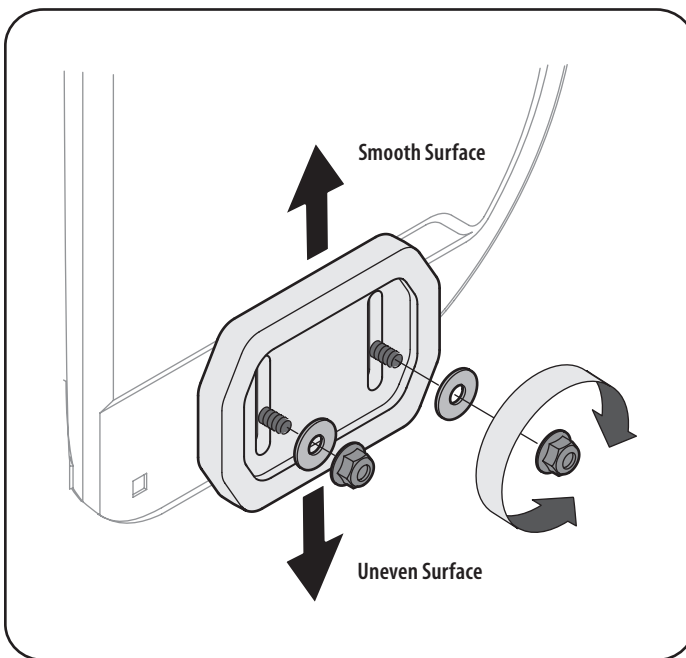

Figure 14
- For close snow removal on a smooth surface, raise skid shoes higher on the auger housing. Refer to Figure 14.
1. Loosen the four hex nuts (two on each side) and carriage bolts. Move skid shoes to desired position. See Figure 14.